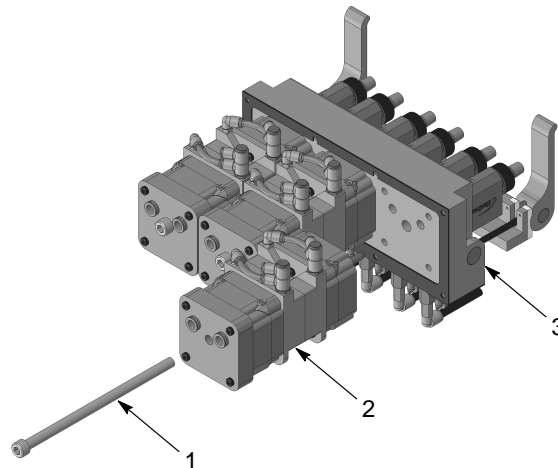

Figure 7-4 Removing the Siphon Block from the Manifold
1. See Figure 7-4. Unscrew the socket head cap screw (1) to remove the siphon block (2) from the pump manifold (3). Retain socket head cap screw for reassembly.
8. See Figure 7-4. Using an 8-mm Allen wrench, insert the socket head cap screw (1) into the bottom of the siphon block assembly (2) to secure it to the pump manifold (3).